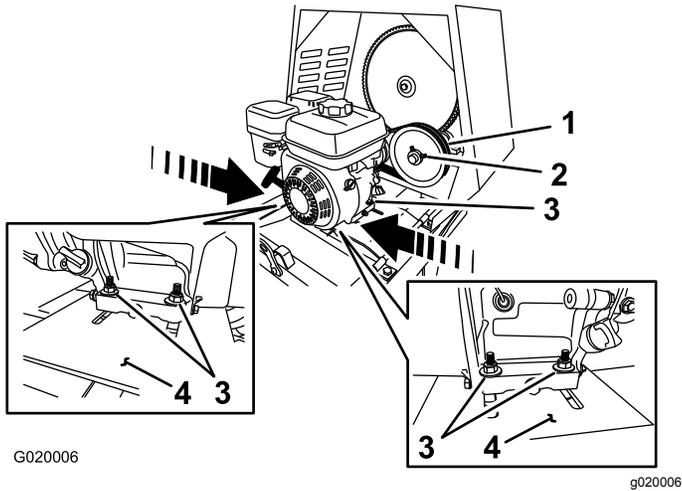

Figure 71
- B. Loosen the nuts and bolts that secure the engine to the engine deck (Figure 71).
- **Increase the air gap**—move the engine **away** from the idler pulley (Figure 71).
- **Decrease the air gap**—move the engine **toward** the idler pulley (Figure 71).